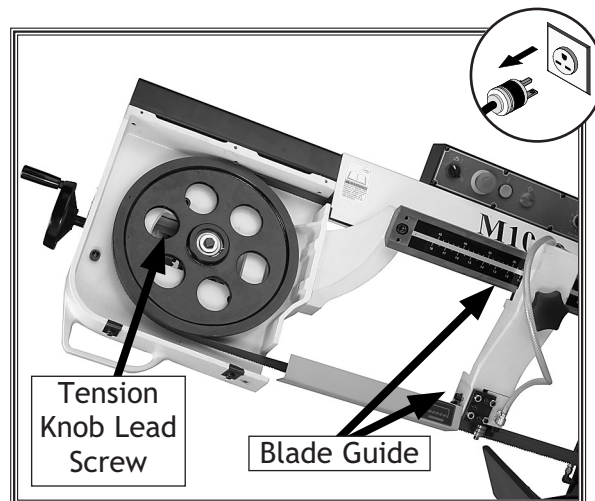

Figure 27. Main lubrication points.
- **Blade Tension Mechanism:** Open the main blade guard and drop a few drops of oil on the tension knob lead screw (see **Figure 27**).
- **Blade and Guides:** Drop a few drops of light machine oil on the blade and the blade guides daily, especially when cutting cast iron, as no cutting fluid is recommended (see **Figure 27**).